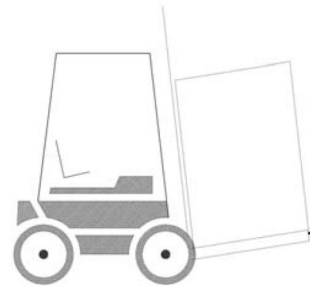

Fig. 5: Transport by a forklift/lift truck:
- Adjust the forks so that the crate is properly balanced (Fig.5).